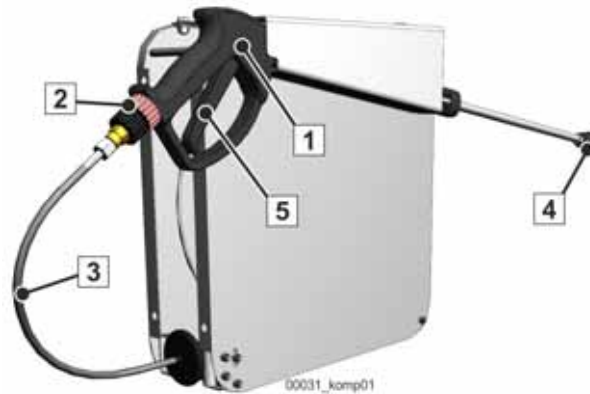

Fig. 469
- Make sure the spray lance trigger operates smoothly and resets on its own (5) (**Fig. 469**), and ensure that the pump shuts down automatically.